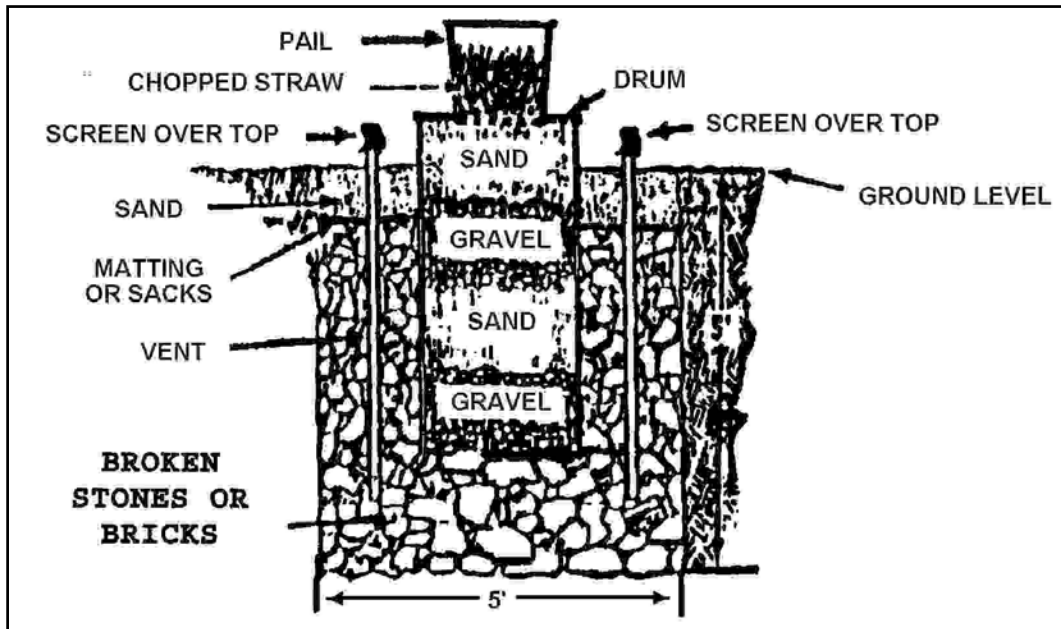
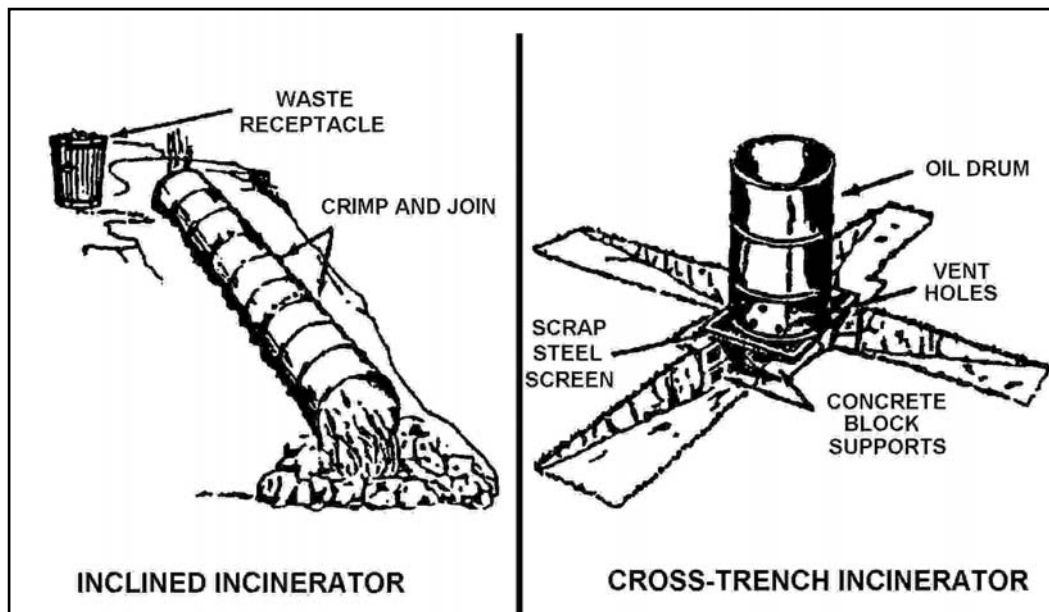

Figure 3-12. Grease Trap and Soakage Pit
Figure 3-13. Incline and Cross-trench Incinerators
- a. Make sure they dispose of grease and liquid waste in a soakage pit or trench (see Figure 3-12, page 3-34).
- (1) Be sure to use a garbage pit or trenches when burying solid waste.
- (2) Be sure to use an incinerator when burning solid waste (see Figure 3-13, page 3-34).